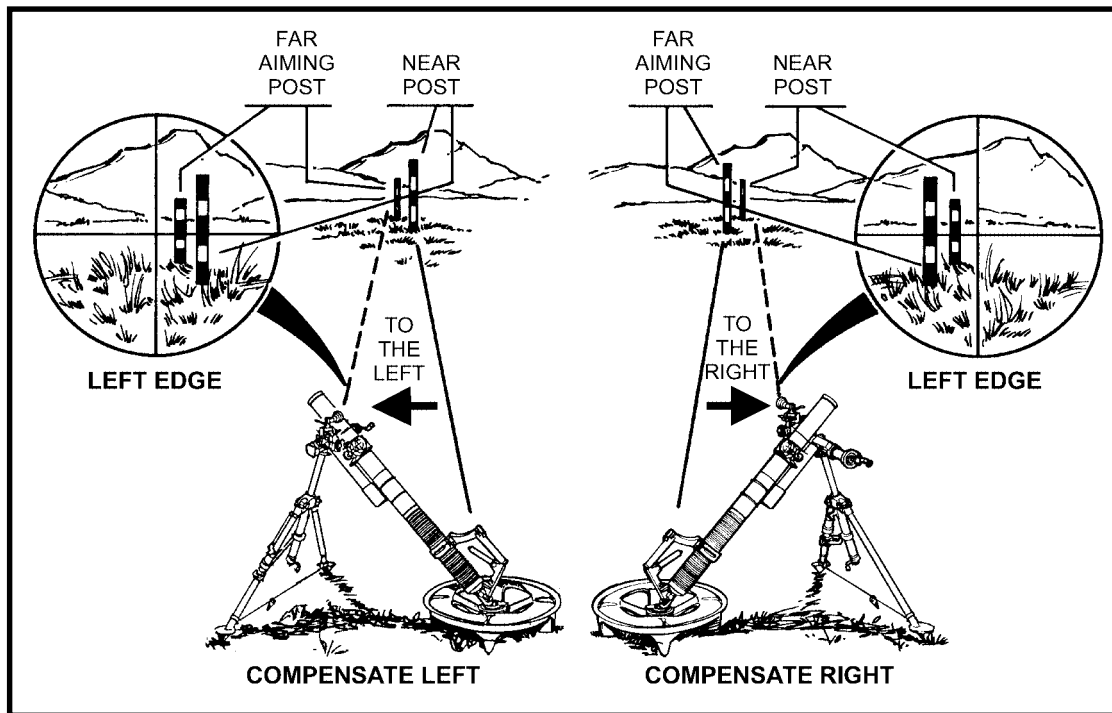

Figure 3-7. Compensated sight picture.
e. When the aiming posts appear separated, the gunner cannot correctly use either one of them as his aiming point. To lay the mortar correctly, he takes a compensated sight picture (Figure 3-7). He traverses the mortar until the sight picture appears with the left edge of the